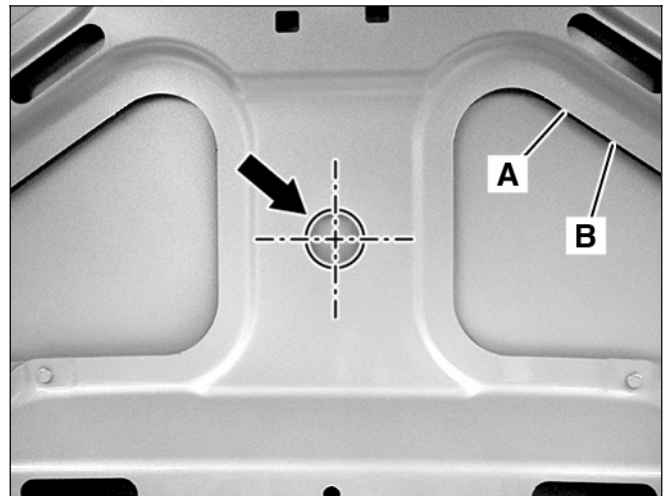

Figure 3
1. Find, hidden between the reinforcement panel and trunk lid underside (A & B, Figure 3), the preinstalled, foam-covered antenna leads and expose them.
2. Measure and mark the trunk lid underside at the center of the recessed hole in the reinforcement panel (Arrow, Figure 3)